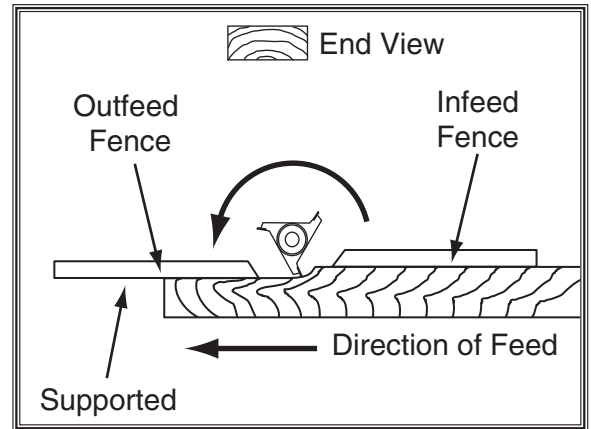

Figure 32. Fence setup for jointing-type operation.
7. Once the cutter has come to a complete stop, adjust the outfeed fence so that it just touches the newly cut edge, as shown in **Figure 32**, and re-tighten the lock handle to secure the fence into position.